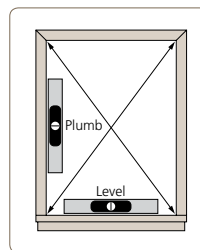

Fig. 1
**Level and plumb:** Place a level against the window opening jambs and determine if the window is level horizontally and plumb (see Fig. 1). The window should not be more than 1/8" out-of-level or plumb.